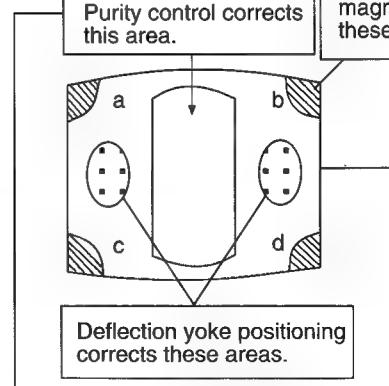

Fig. 3-4
- If the beam does not land correctly in all the corners, use a magnet to adjust it. (See Fig. 3-4)